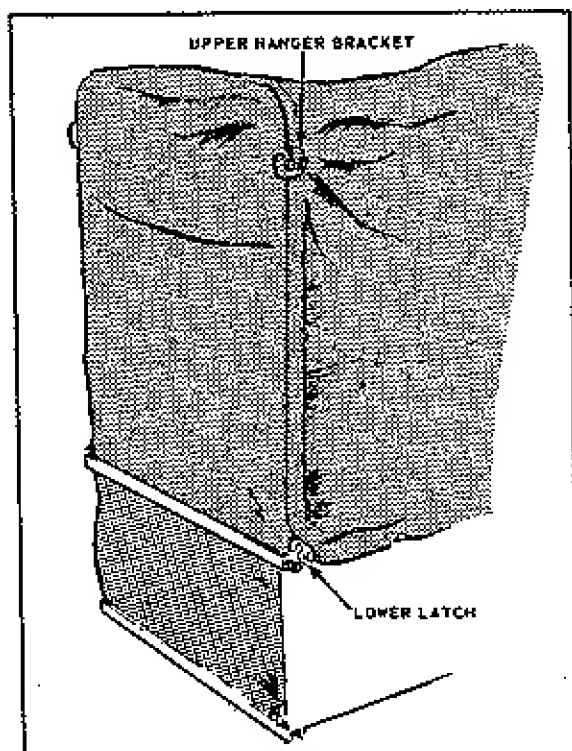

FIGURE 7
F. Attach the upper hanger brackets to the rear support frame as shown in Figure 7. The lower latches on the rear frame support are then attached with the appropriate hardware as called out in the exploded-view and parts list. Check to see that the latches are secure, but still free to pivot.